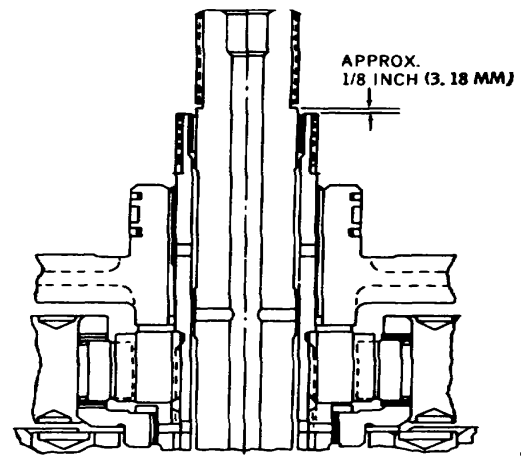

Fig. 7-20. Sun gear shaft clearance
Do not remove the sun gear shaft assembly before checking the required clearance shown on figure 7-20. If the clearance is less than 1/8 inch (3.18 mm), proceed with item (2). Otherwise omit item (2) and proceed with item (3).
(2) If the sun gear shaft assembly is properly seated, there should be approximately 1/8-inch (3.18 mm) distance from the end of the sun gear shaft assembly to the
shoulder on the main shaft shown in figure 7-20. If the shaft is not properly seated, a slow rotation with a slight up and down motion may seat it. If not, remove the shaft (noting its relative position to the main shaft) and center the front sun gear thrust washer so the sun gear shaft will bottom.